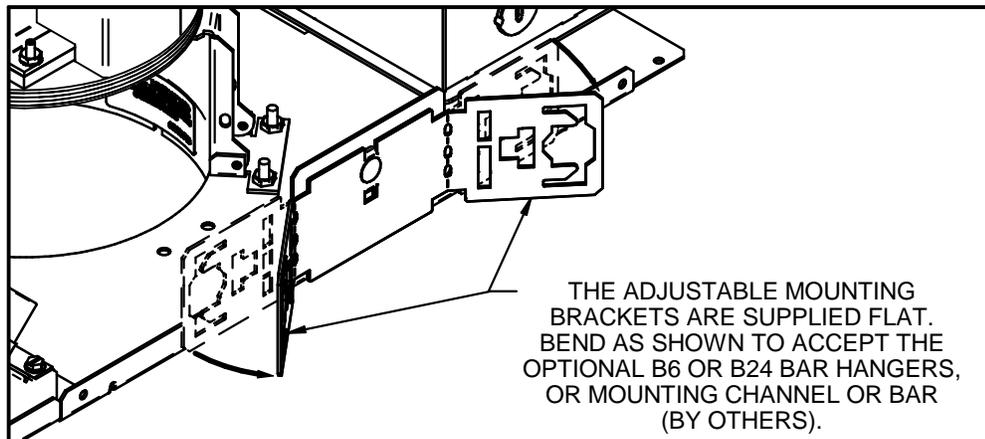

FIG. 1
1. Bend the adjustable mounting brackets as shown in **FIG. 1**. Install the fixture in the ceiling using B24 or B6 bar hangers, or using mounting channel or bar (by others) placed in the adjustable mounting brackets. Mount the fixture so that the weight of the fixture is safely and securely attached and supported by the building structure using the bar hangers, mounting channel, and/or hanger wires, or as required by local code. Do not support the fixture by attaching it to the ceiling alone!